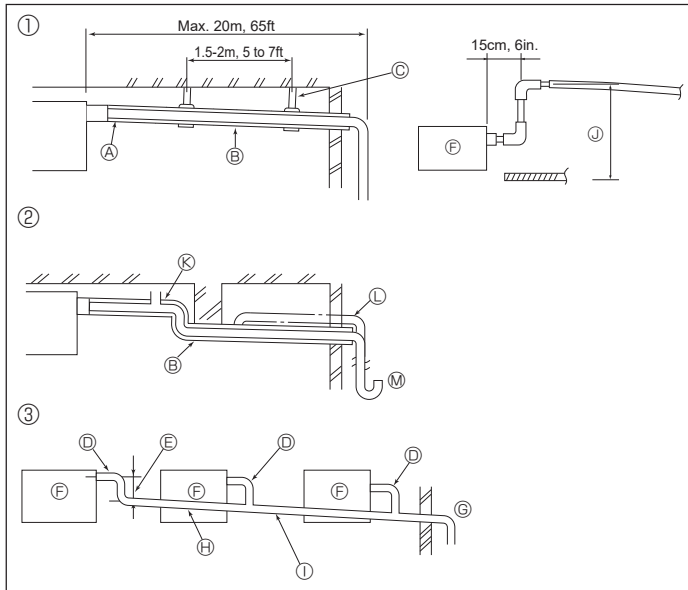

Fig. 4-1
4.1. Drainage piping work (Fig. 4-1)
- ① Correct piping
- ② Wrong piping
- Do not place a raised pipe on the piping, ①
- ③ Grouped piping